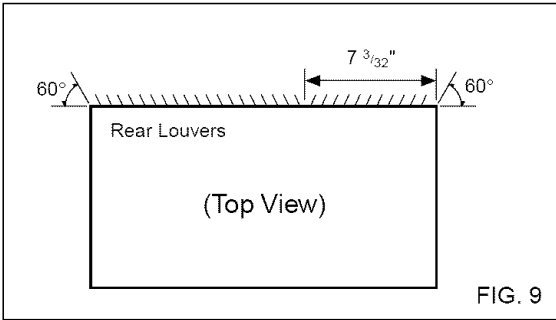

FIG. 9
- 1 Redirect the louvers at the back of the wall sleeve to 60° angle as shown in the FIG 9. The use of pliers is recommended.